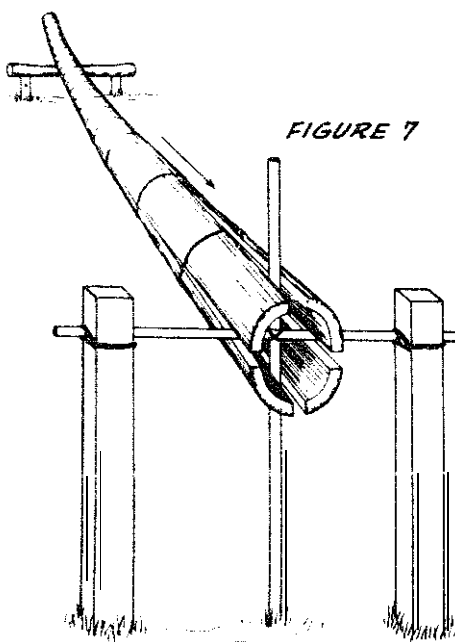

FIGURE 7
- o Build a cross of iron or hardwood bars about **2.5cm (1") thick**, and place it on firmly set posts about **10cm (4") thick** and **90cm (3') high** (see Figure 7).
- o At the top end of **the culm**, use an ax to make **two** pairs of breaches at right angles to **each** other (see Figure 7).
- o Hold the breaches open with steel wedges placed a short **distance from the** end of the **culm**, until the **culm** is on the cross as shown in Figure 7.